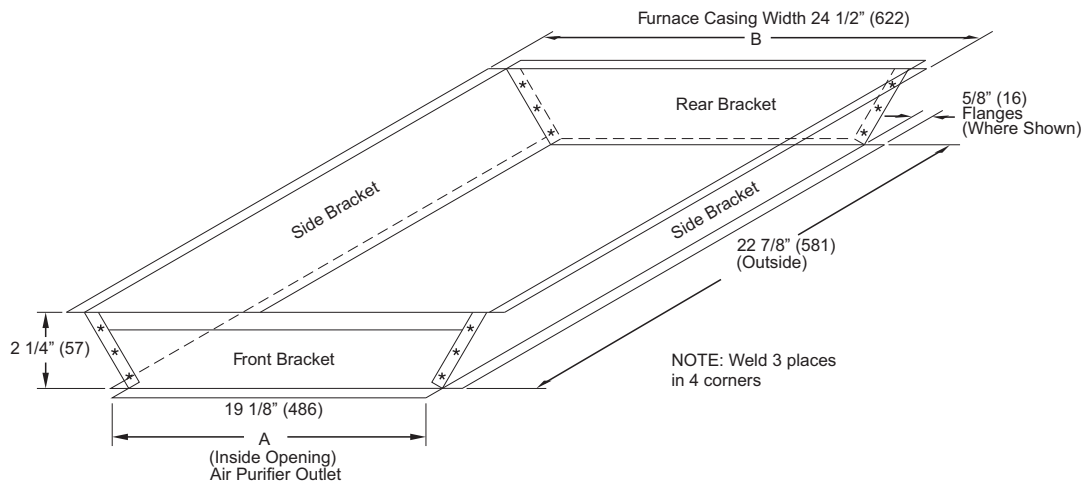

Fig. 10 - Transition
- Prepare transition, following recommended transition drawing (see Fig. 10). Fabricate a 2 1/4 inch (57 mm) tall (minimum) transition.